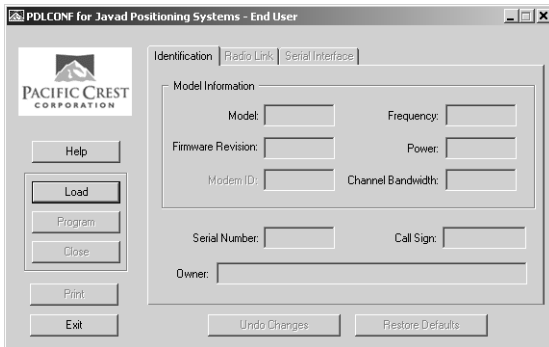

Figure 2-26. PDL Radio Configuration Main Screen
5. Run the PDL Radio Configuration Program (pdlconf.exe) from Pacific Crest (Figure 2-26 on page 2-33).